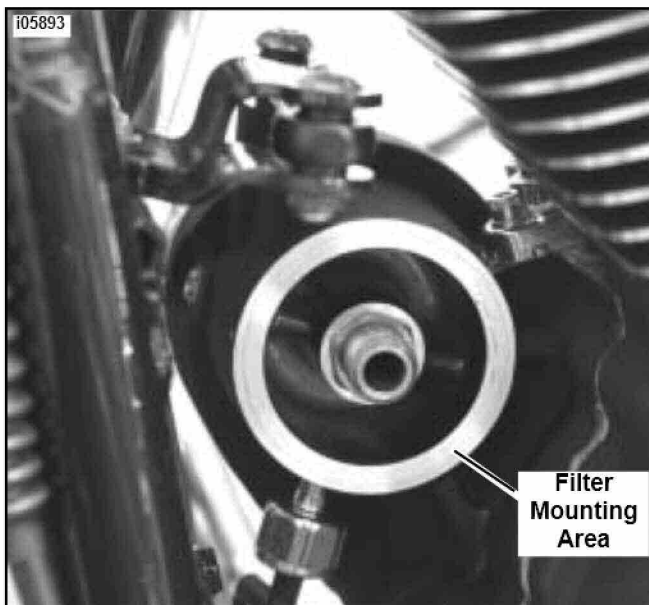

Figure 1. Remove Spin-On Oil Filter
1. See Figure 1. Remove the spin-on oil filter. Clean the stock filter-mounting area thoroughly.